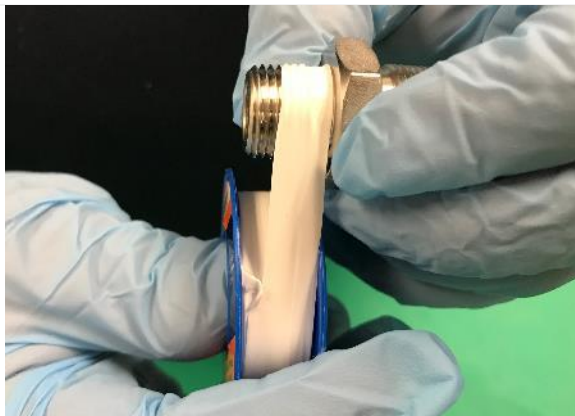

Figure 243. Wrap the Threads with Teflon Tape.
STEP 30 | Re-wrap the threads with Teflon tape, as necessary (**Figure 243**). Wrap in the direction of the threads to prevent the tape from unwrapping, as the fitting is threaded in.